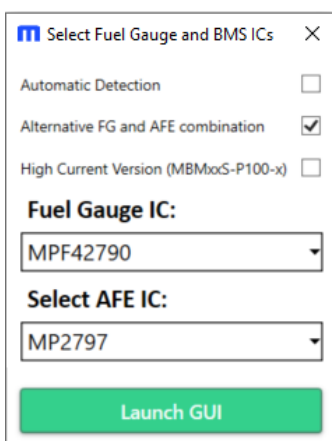
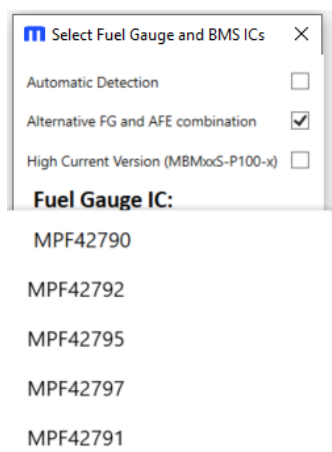
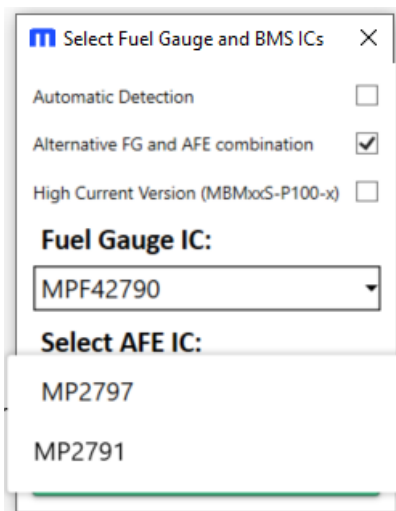

Figure 22: Fuel Gauge and BMS ICs Selection Window 3
Figure 23: Fuel Gauge and BMS ICs Selection Window 4
Figure 24: Fuel Gauge and BMS ICs Selection Window 5
- b. Manually select the BMS and FG ICs independently with the drop-down menus (see Figure 22, Figure 23, and Figure 24 on page 22).